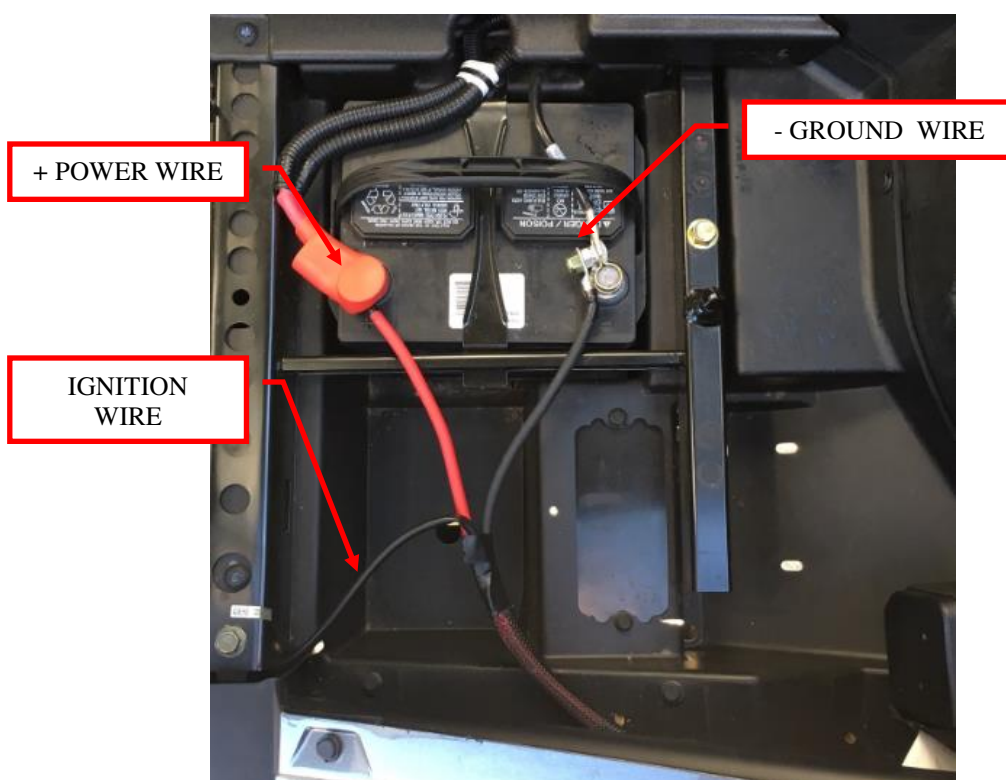

Figure 8: Attach the power wires.
7. Connect the red power wire to the positive terminal of the battery using the supplied 5/16"-18 nut. Connect the black ground wire to the negative terminal of the battery using the supplied 5/16"-18 nut. See Figure 8.
9. Route the ignition wire from the chassis harness (near the area where you made the battery connections in Figure 8) under the floor boards, up the inside of the front fender well and into the area under the radiator access hood. See Figure 10 and Figure 11.